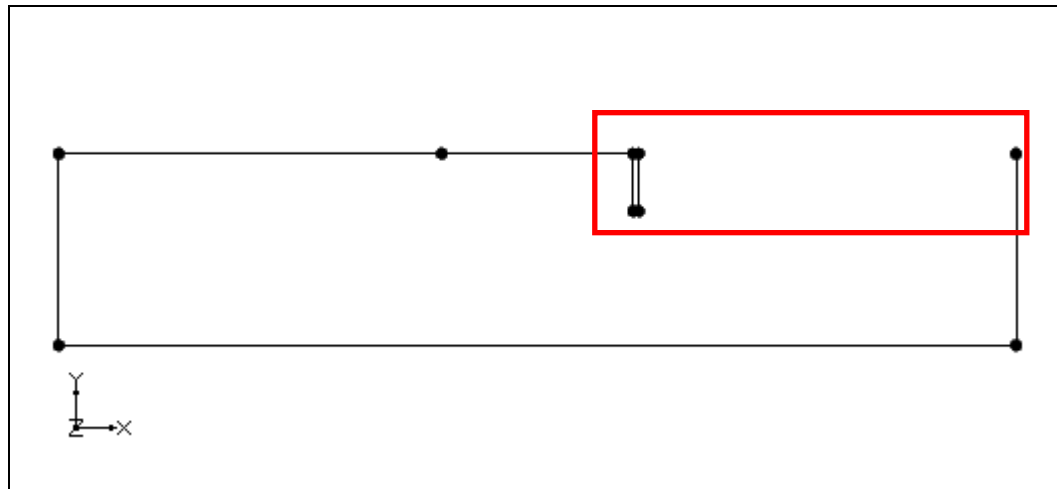

Figure 6. Arcs connecting points.
8. Select the **Zoom**  tool and drag a box as shown by the red box in Figure 6.